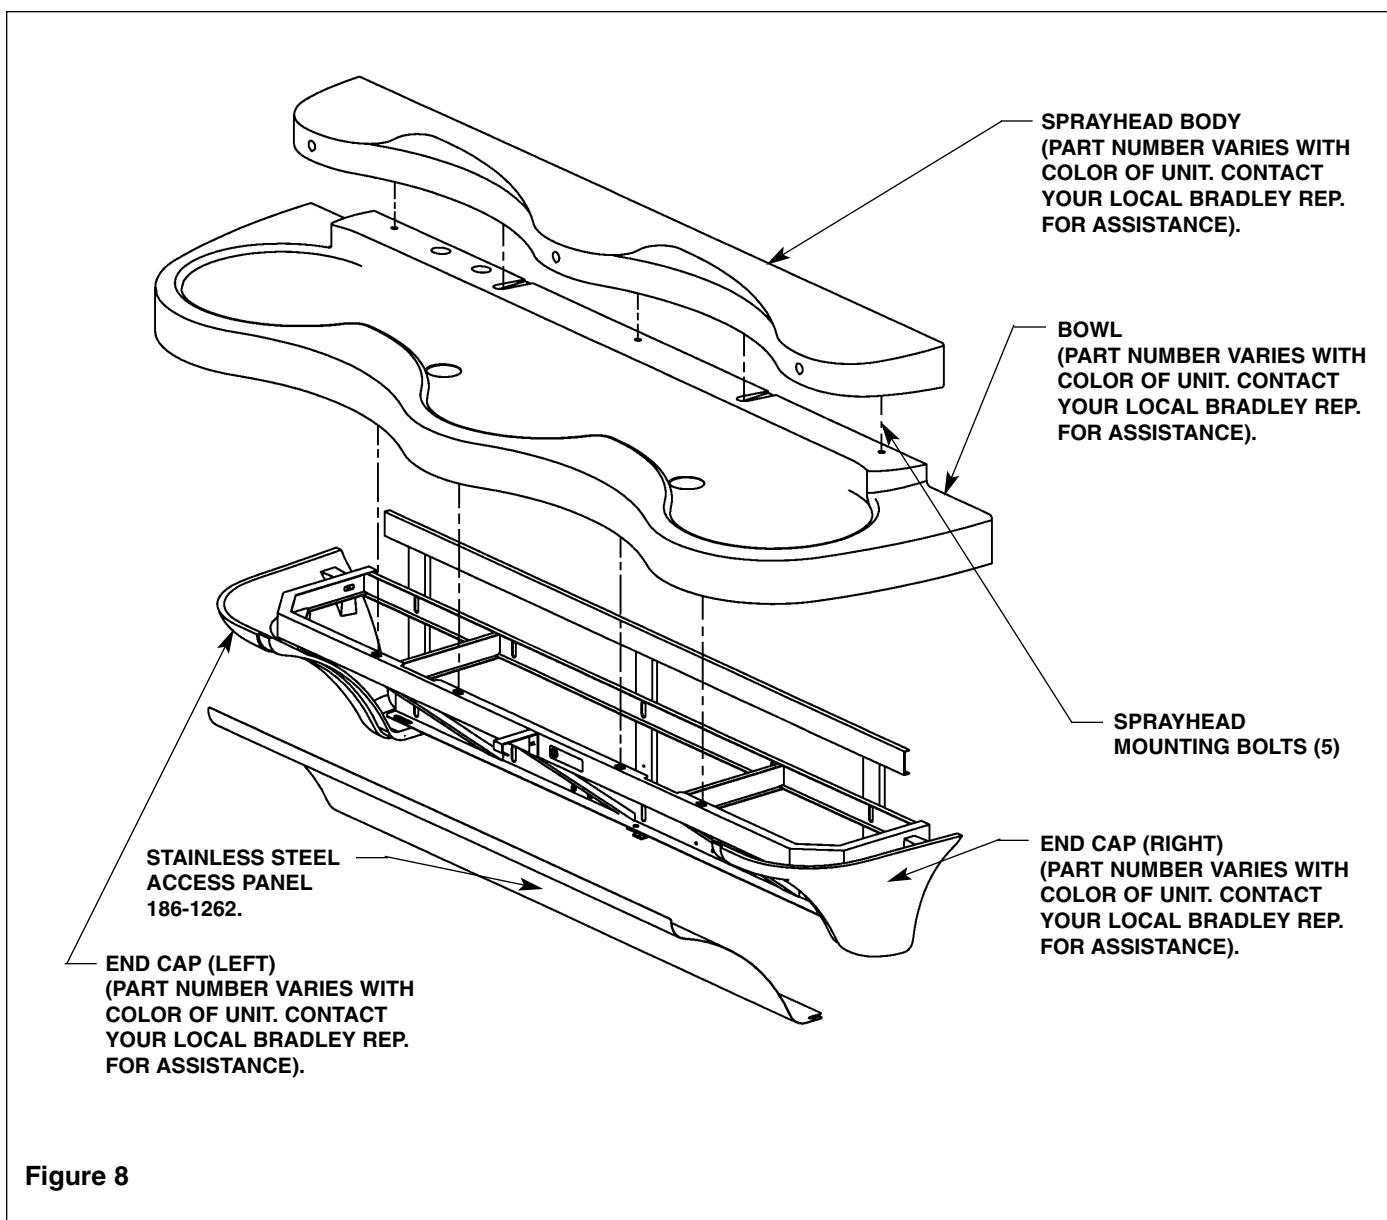

Figure 8
5. If necessary, adjust sprayhead body to fit closely to wall by adjusting sprayhead mounting bolts. See Figure 8 on page 14 for sprayhead mounting bolt locations.
Remove (5) bolts located underside of bowl neck (see Figures 8 and 10). Carefully remove sprayhead from bowl.
1. LED not illuminated — no power is getting to the sensor. Check for power at the 110 VAC wall outlet and from the wires from the 24 VAC transformer. If there is 110 VAC power at the wall outlet, but no power from the transformer, touching the leads from the transformer while plugged in or a power surge may have burned out the transformer. Add surge protection at the outlet if a power surge is suspected and replace the transformer. If 24 VAC power is being supplied from the transformer, check for loose wire connections and also check connections against the wiring diagram (see Figure 8).